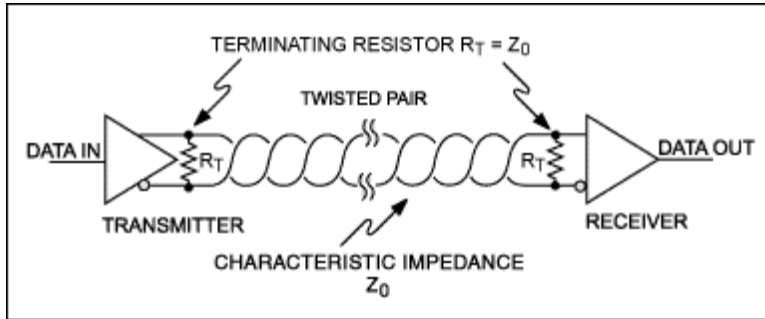

Figure 7. Single transmit, single receive network.
- Proper wiring^[6]: RS-485 specifies differential transmission, which requires two signal wires in addition to a ground wire (commonly a 24AWG twisted pair) to transmit the signal. The two signal wires carry signals opposite in polarity, and greatly reduce the problems of radiated EMI and EMI pickup. The common characteristic impedance of this wire is 120Ω , which is also the resistance used to terminate each end of the cable—in the interest of reducing reflections and other transmission-line effects. **Figures 7** and **8** illustrate properly wired systems.